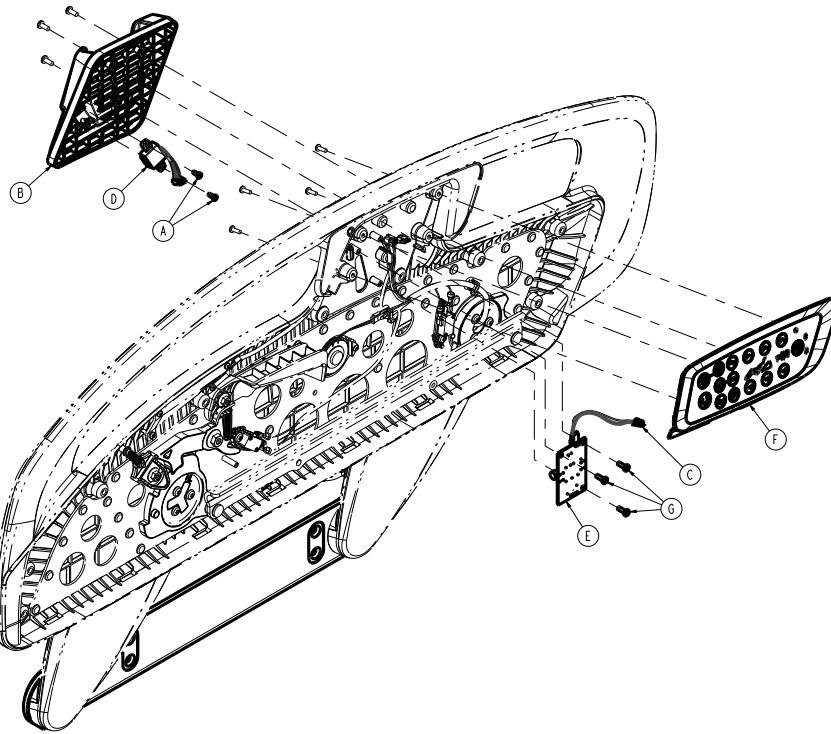

Figure 36 – Replacing the USB port (option)
- Unplug the USB cable (D) from the USB charging board (E) to remove the patient belonging bracket with USB (B) (Figure 36).
11. If the product has the optional USB charger, use a T20 Torx driver to remove the three screws (G) that secure the USB charger board (E) to the siderail hoop (Figure 36). Remove and save the board.